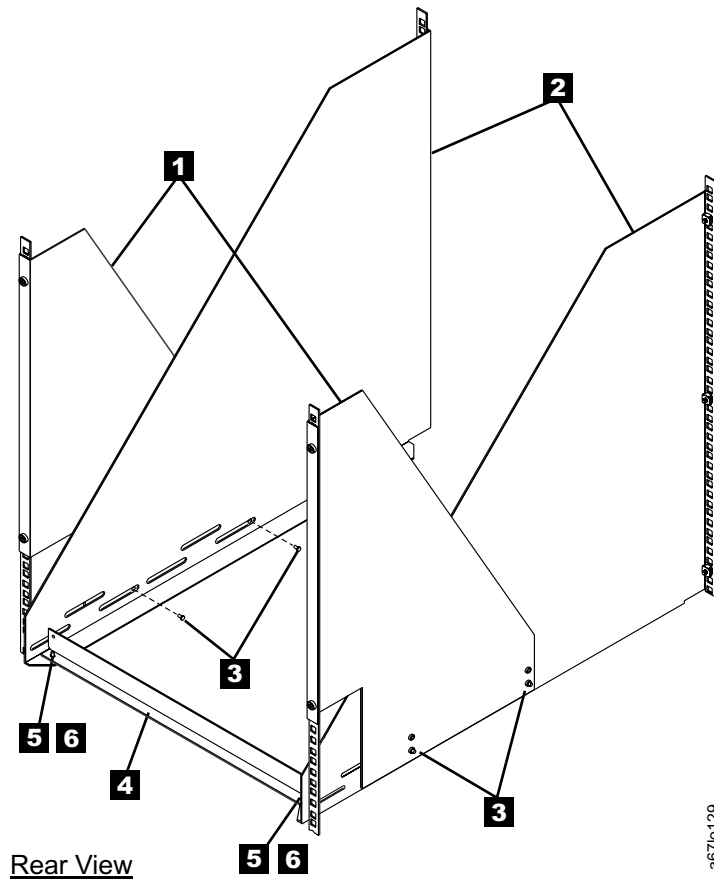

Figure 17. Installing the rear stop bracket
11. Attach the front mounting brackets (see **2** in Figure 17) to the rear mounting brackets **1** by placing four screws **3** through the slots, two on each side. Secure the brackets loosely by tightening the screws.